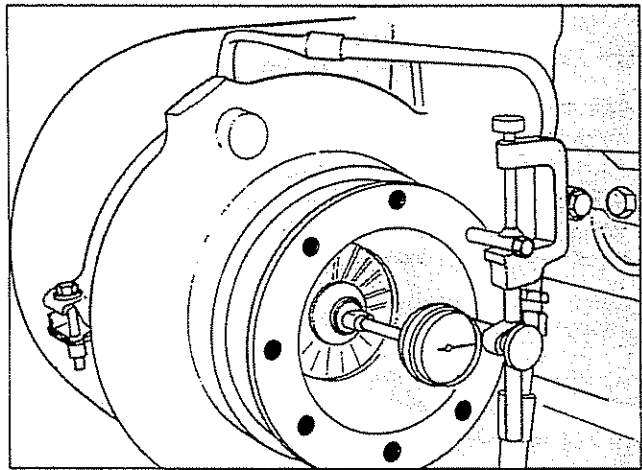

Fig. 2-66, (OM1065L). Check turbocharger bearing end clearance.
Check bearing clearances. This can be done without removing the turbocharger from the engine, by using a dial indicator to indicate the end-play of the rotor shaft and a feeler gauge to indicate the radial clearance. Fig. 2-66.
2. Remove one capscrew from the front plate (compressor wheel end) and replace it with a long capscrew. Attach an indicator to the long capscrew and register the indicator point on the end of the rotor shaft. Push the shaft from end-to-end making note of the total indicator reading. Fig. 2-66. On T-50, ST-50 and VT-50 the end clearance should be 0.006 to 0.018 inch [0.15 to 0.46 mm].